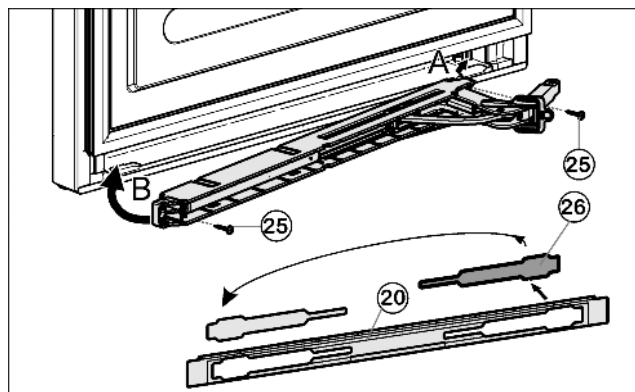

Fig. 15
- ▶ Remove the cover *Fig. 15 (26)* from the faceplate *Fig. 15 (20)* and re-insert it at the other side.
- ▶ Engage the soft stop unit with the joint pointing to the hinge side (A) and swivel into place (B).
- ▶ Screw the soft stop unit firmly into place (2 mal Torx® 15) *Fig. 15 (25)*.